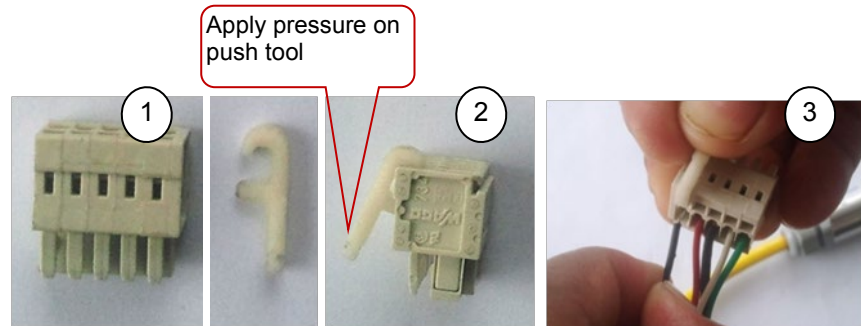

Figure 8-12: Sensor end connector and push tool
8.7.14 Connect sensor cable end to the 5 pin connector pressing the lever of push tool down as shown in step 2 of figure 8.12. (5 pin connector and push tool are part of supply).